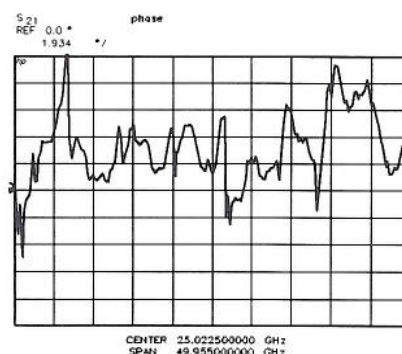

Figure 3-3. Full Span Response at 1 MHz per Division
9. To display the difference between step and ramp mode, press STIMULUS **MENU** **RAMP** **SWEEP TIME** **0** **5** **X1**. See Figure 3-3 for an example of a full band measurement at 1 MHz per division.